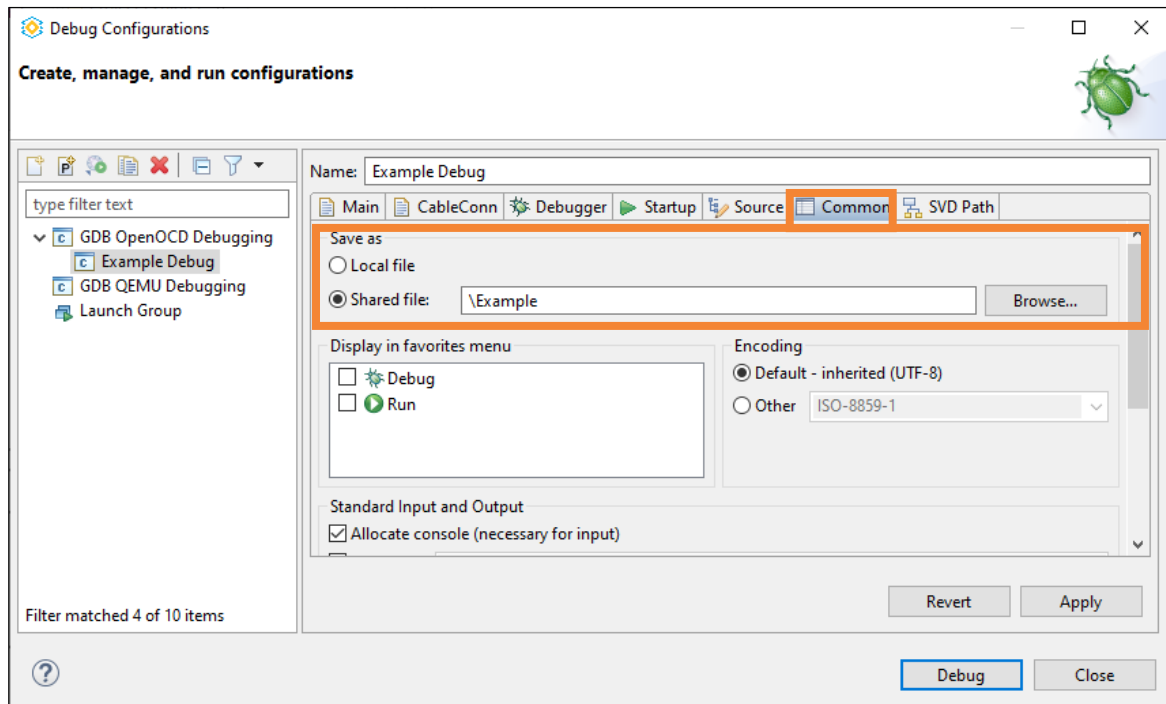

Figure 3.41. Common Tab of Debug Configurations
- (Optional) Select the **Common** tab (Figure 3.41). The **Save as > Local file** option is selected by default. This causes the debug launch configuration to be saved into the workspace.
4. Click the **Debug** button (Figure 3.41).